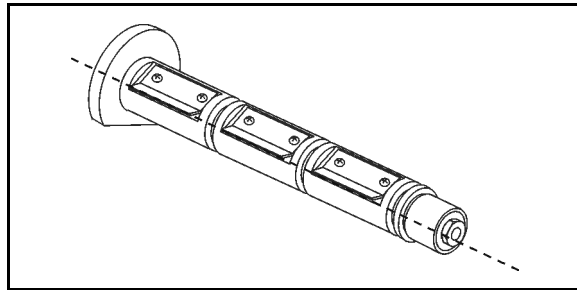

Figure 2
1. Align the segments of the ribbon supply spindle. See Figure 2.